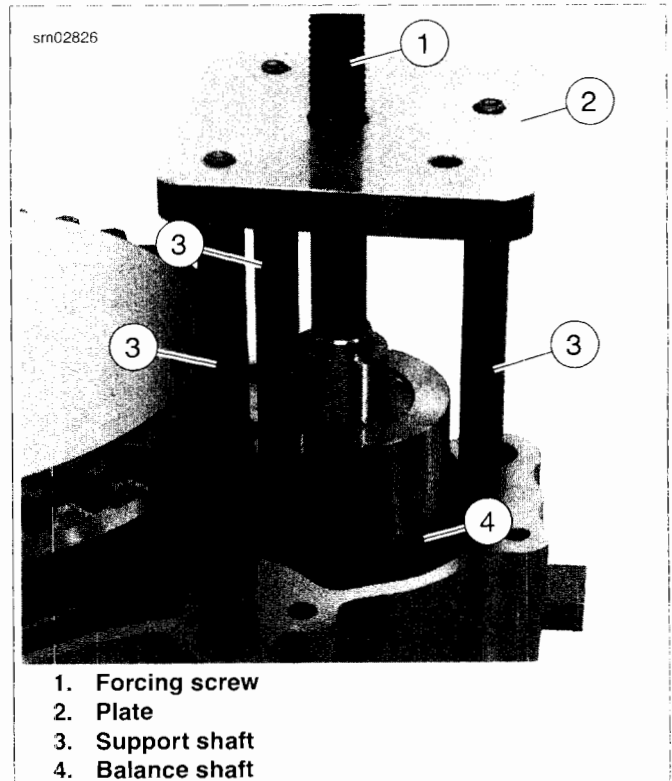

Figure 3-161. Balance Shaft Remover
2. See Figure 3-161. Assemble BALANCER SHAFT REMOVER (Part No. HD-48457).
- a. Sparingly apply graphite lubricant along threads of forcing screw (1) to prolong service life and verify smooth operation.
- b. Install support shafts (3) in crankcase.
- c. If replacing front shaft, install plate (2) over support shafts with side marked "Front" facing up. If replacing rear shaft, install plate over support shafts with side marked "Rear" facing up.
- d. Install forcing screw in balance shaft (4).